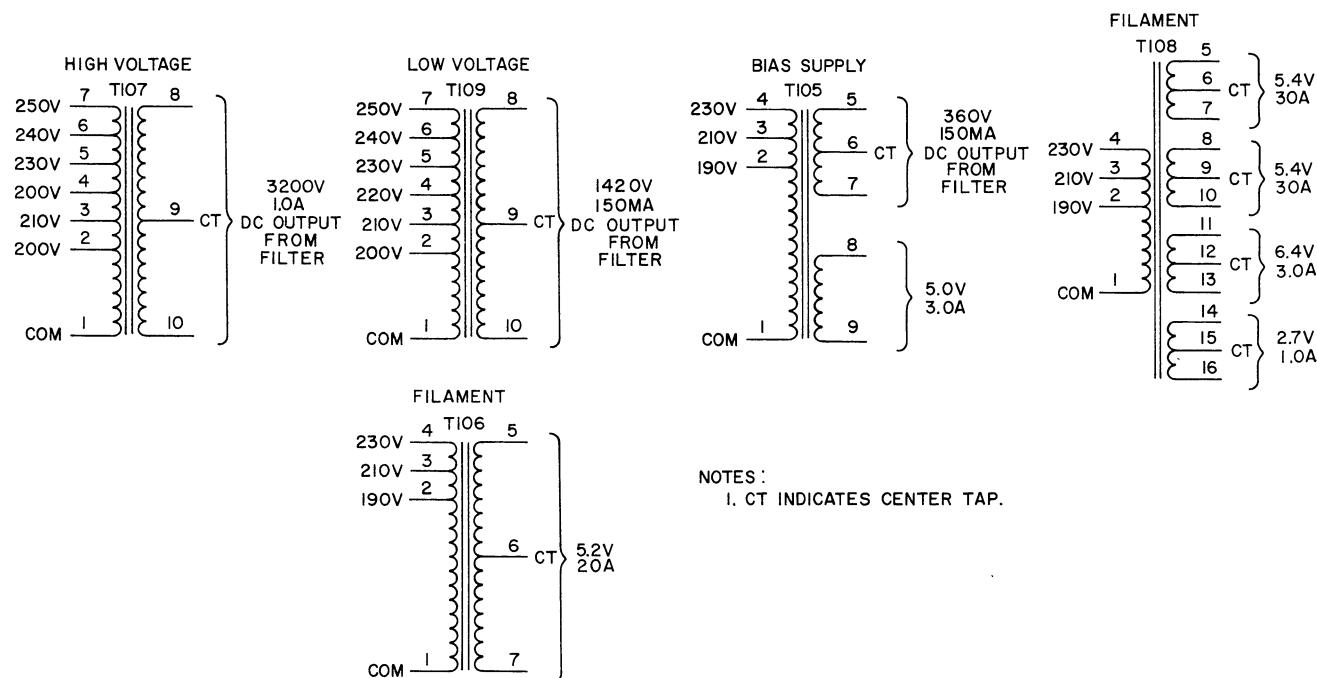

Figure 2-3. Transformer Details
d. Measure the station line voltage. Refer to figure 2-3 and make connections to the high-voltage transformer (T107) primary terminals that most nearly correspond to this voltage. If the normal station voltage is low, use the low-voltage taps on the bias supply transformer (T105), the 575A filament transformer (T106), the main filament transformer (T108), and the low-voltage plate supply transformer (T109).